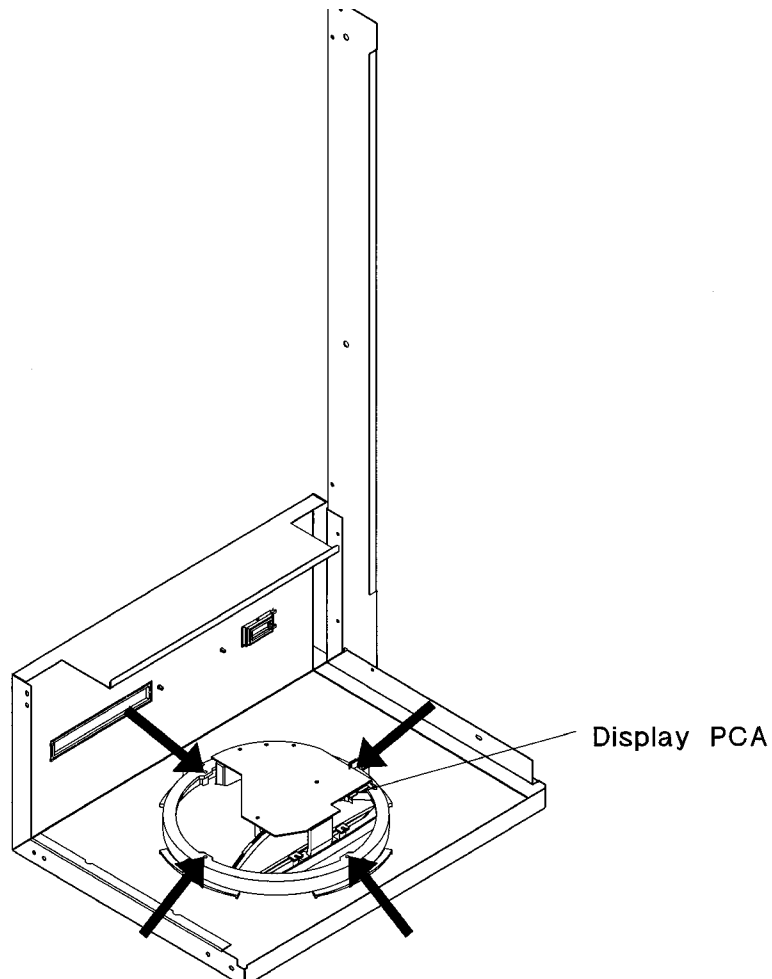

Figure 56: Control Panel Mounting Screws and Interface Cable
2. Disconnect the control panel cable from the control panel (#1 arrow Figure 56).
3. Remove the eight T-15 screws that mount the control panel to the front window. Remove the control panel (see Figure 56).